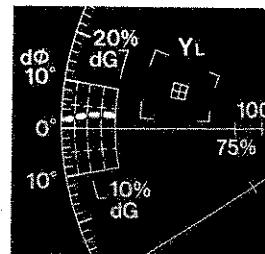

Figure 4-4
- (d) With the amplitude control, adjust the outer-most vector so it can touch the circle. See Fig. 4-4.